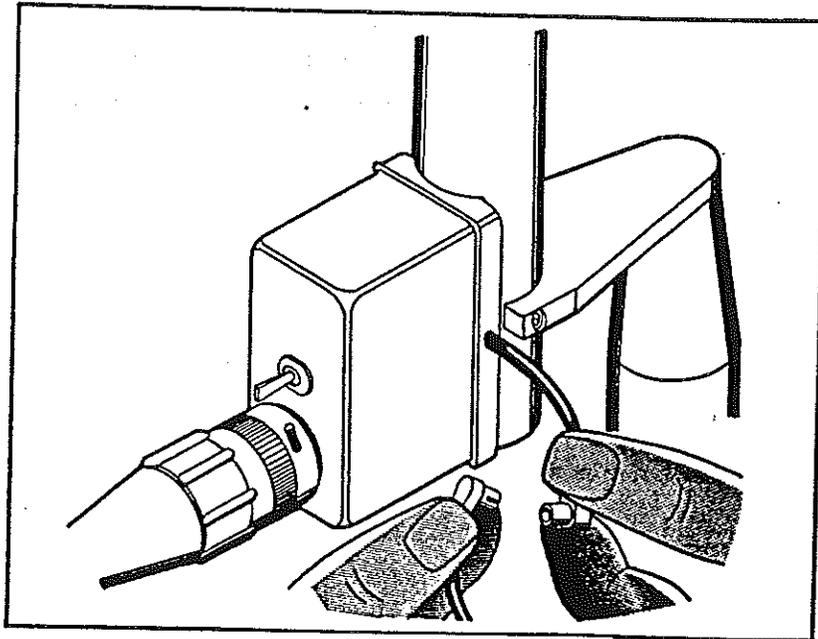

Fig. 32
- (f) Connect the coaxial lead from the connector on the underside of the Camera to the short 3 mm coaxial lead on the right hand side of the Flash Head (Fig. 32) (This connection powers the Fixation Lights).